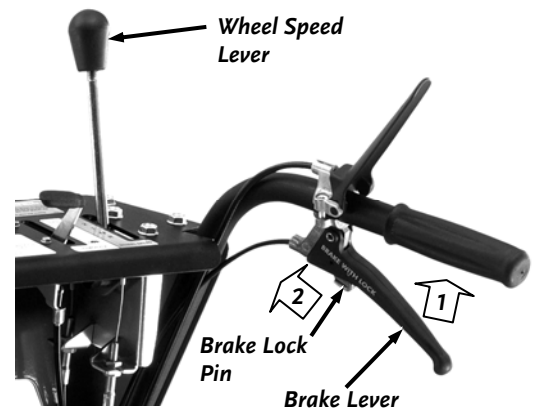

Figure 23
1. Shift the Wheel Speed Lever to Neutral **N** (**Figure 23**)